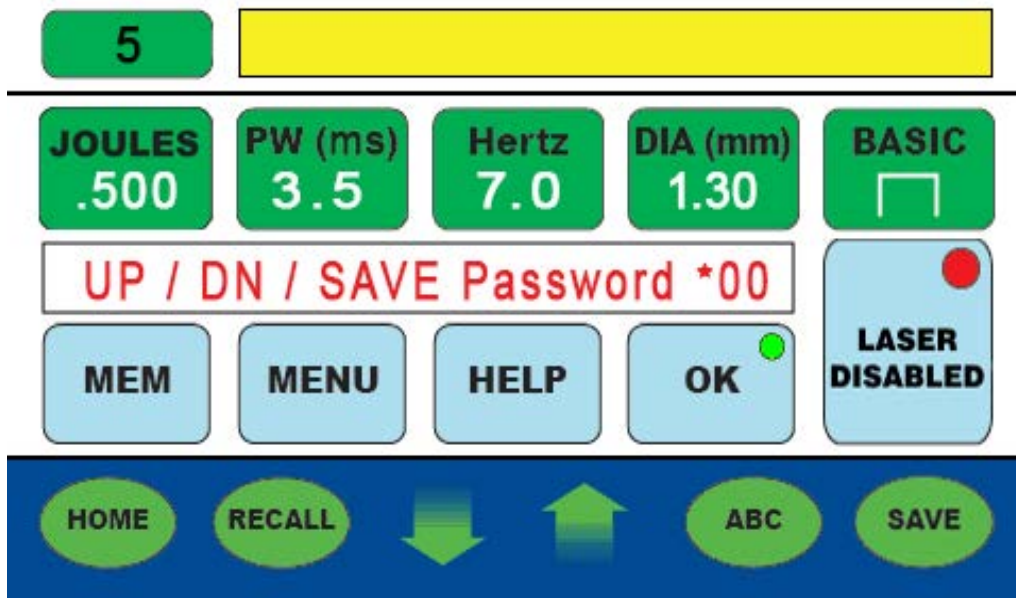

Figure 64
3. Press the **menu button** on the password screen; a (*) is inputted into the field for the first digit. Next, press the **up arrow** to assign the second number; the “3” will blink (**Figure 64 on page 117**).